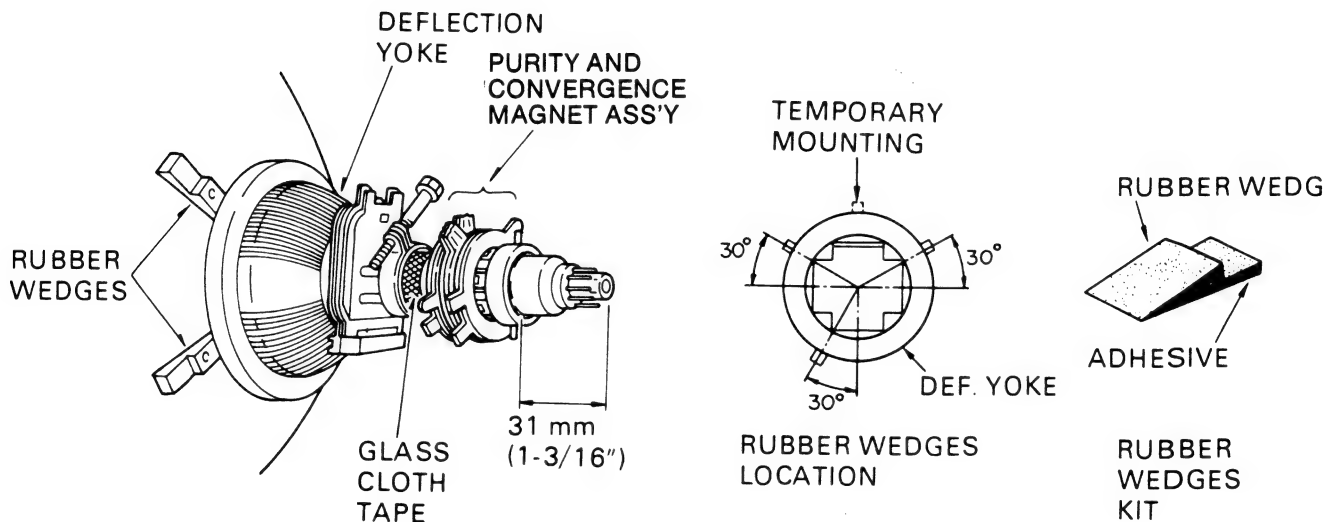

Figure 14.
2. Put a wedge as shown in figure 14 temporarily. (Do not remove cover paper on adhesive part of the wedge.)
5. Tilt front of the yoke right or left to obtain better convergence in circumference. (See figure 14.)
9. Stick 3 adhesive tapes on wedges as shown in figure 14.